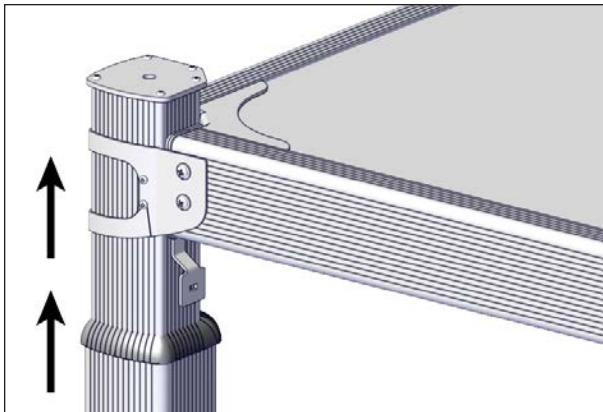

FIGURE 50: CHECKING THE SLEEVE INSTALLATION
29. Check the installation of the brackets by trying to lift each sleeve. Review previous steps for any broken screws or to retighten screws if the sleeve keeps moving, see Figure 50.